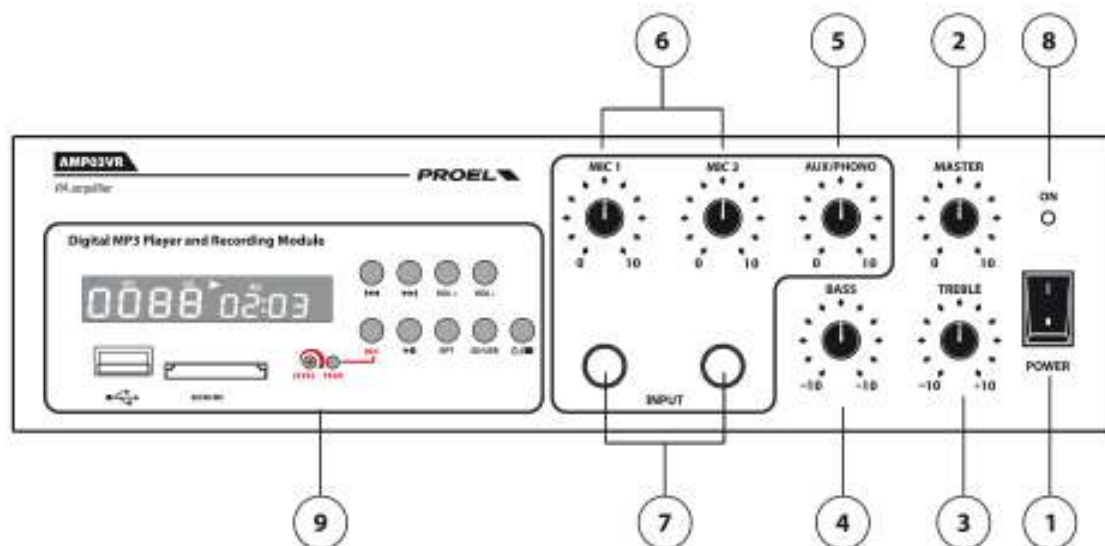
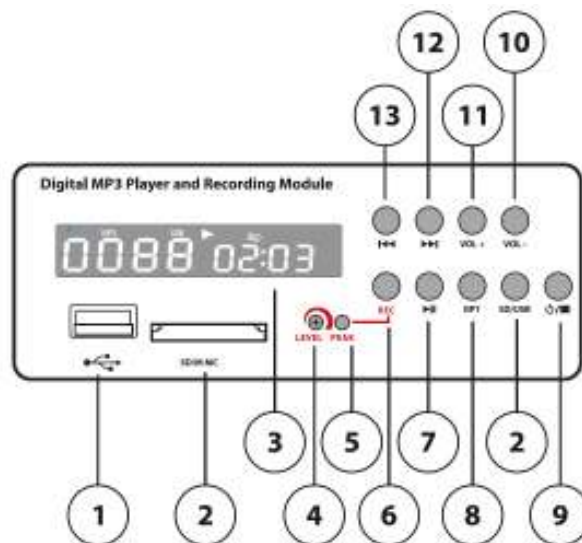

fig.1
fig. 3
After having switched on the module (fig. 3, ref. 9) and set the recording level (fig. 3, ref. 4), connect an audio source to one of the three available inputs (fig. 1, ref. 7 – fig. 2, ref. 4) and adjust its level.
Insert the USB key or the SD card in the respective inputs (fig. 3, ref. 1 – fig. 3, ref. 2).
When you wish to stop recording, press the REC button again (fig. 3, ref. 9) and make sure the meter is no longer visualized.
Switch on the module (fig. 3, ref. 9) and insert the USB key or the SD card in one of the respective inputs (fig. 3, ref. 1 – fig. 3, ref. 2).
When you are playing something and you press the PLAY/PAUSE button (fig. 3, ref. 7) the reproduction will stop and will not resume unless you press the button once more.
- MIC1 and MIC2 inputs (fig. 1, ref. 7) are 6.3 mm mono jacks and can be used to connect low impedance (30-600 Ω) dynamic microphones. The MIC1 input features a VOX function that, when driven by a signal, prioritizes it and excludes all other inputs: in this way only the audio signal present on the MIC1 input is reproduced at the output.